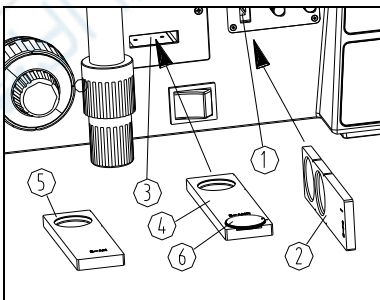

Fig. 28
(1)Take off the cover of polarizer slot ①, and insert the the polarizer ②. (Fig. 28)